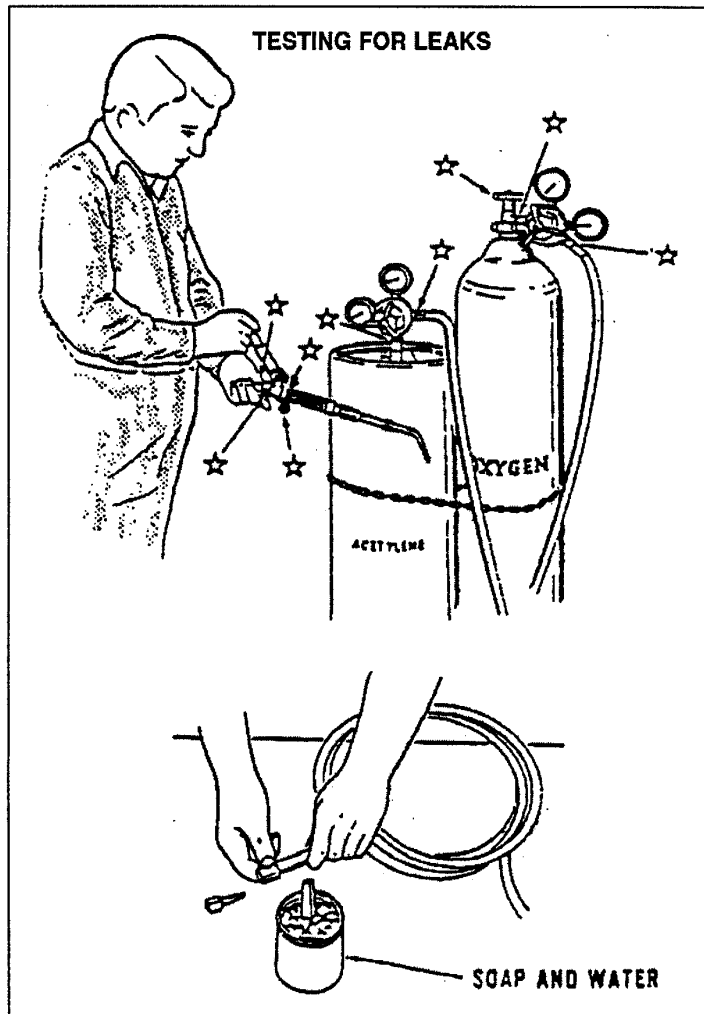

Figure 3-11 Checking Equipment for Leaks
- a Oxygen and acetylene gas cylinders, pipelines, valves, regulators, hose and torch connections should be checked carefully for leaks. Large leaks can be heard. Leaks between cylinder or pipeline and torch may be detected by closing the valves. If the high pressure gauge recedes, you will know that your equipment is leaking. Do not operate any cutting equipment until you are sure there are no leaks (See **Figure 3-11**). Never use a match or flame to find a leak. Ensure that all connections are wrench tight. **Note:** Do not attempt to stop a leak between the cylinder and the regulator without first closing the cylinder valve.